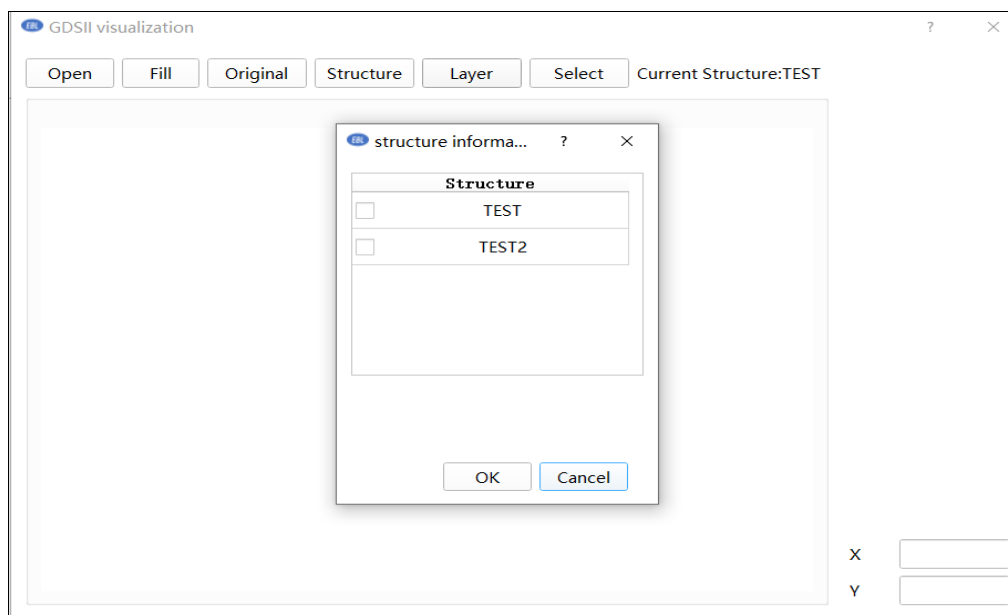

Figure 3.2.1 Select structure
- 1) "Structure" is used to display structure at the top of the interface (Figure 3.2.1). Ticking before a structure you want to view, and click "OK" to view it. (Note: Only one structure can be selected.)